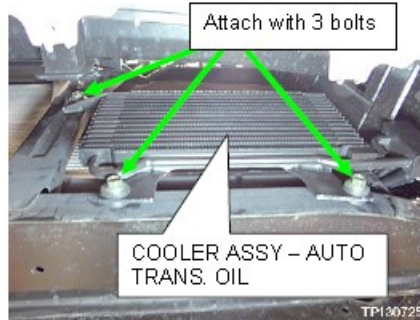

Figure 1
**NOTE:** Figure 1 is shown looking from the bottom of the vehicle upward, at the lower front radiator/condenser support.